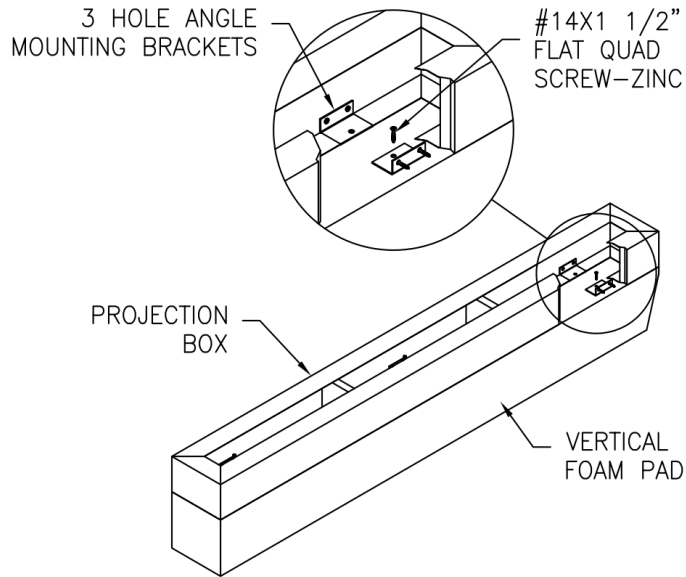
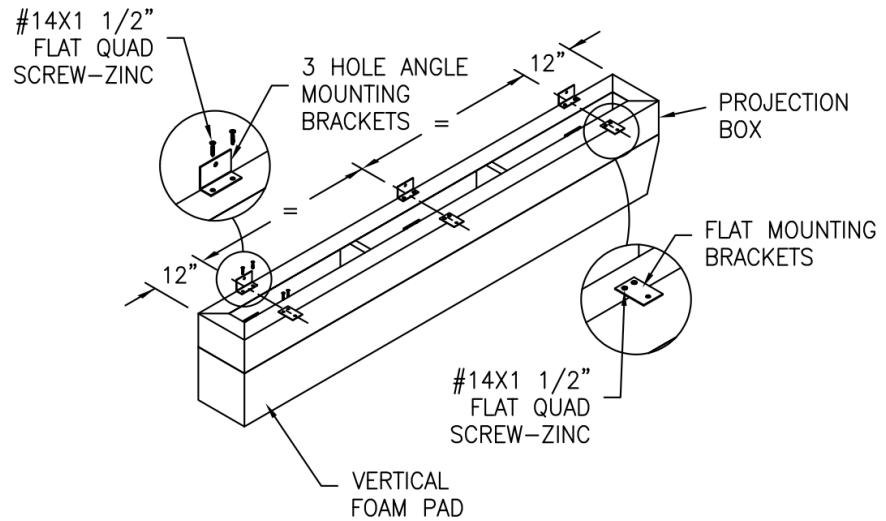

FIG. 1
FIG. 2
**NOTE:** If projection boxes are provided, attach pads to projection boxes with angle brackets (fig. 1), Then use the flat and angle brackets on the back face of the projection box (fig. 2).
**NOTE:** Final location of the bracket to be determined by the installer (fig. 2) Mounting dimensions are a reference only, to suit spacing of the mortar joints or other wall configurations.